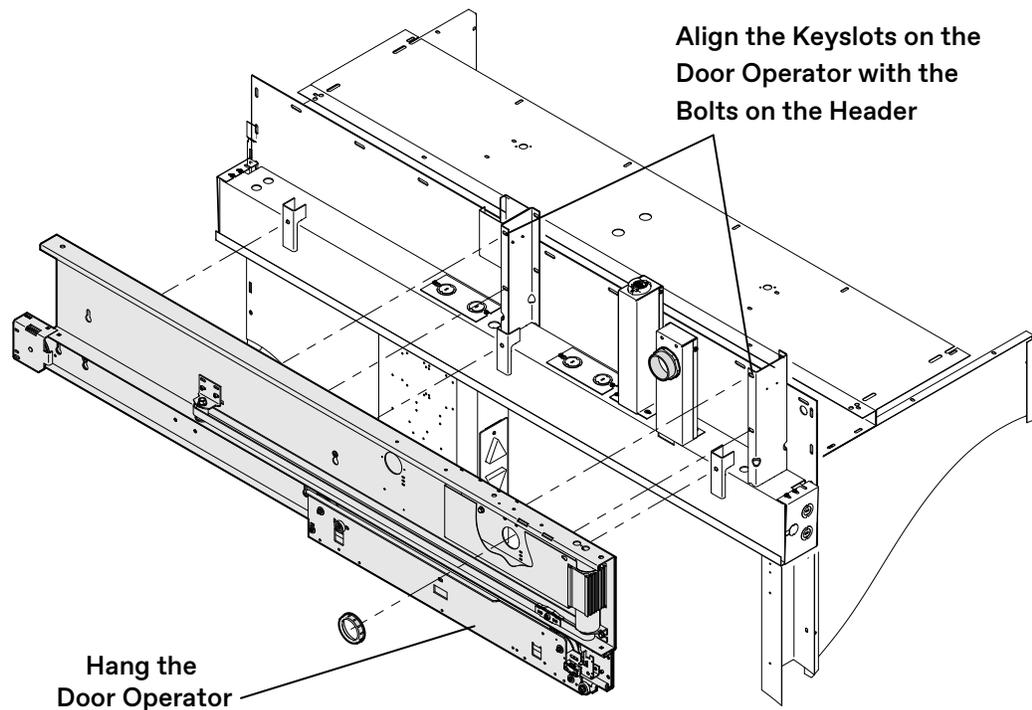

Figure 4 - Attach and Install the Door Operator
8. Align the keyslots of the door operator door track with the bolts on the header. See Figure 4.